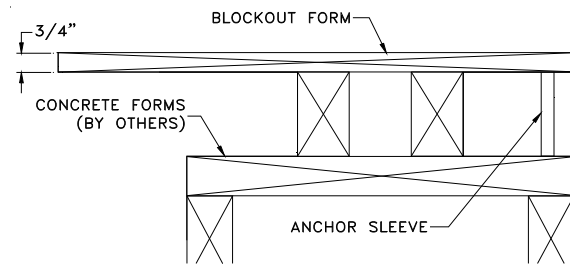

Figure 2
**STEP 7.** Select the anchor sleeves. Affix the anchor sleeves to the concrete forms at the locations marked in Step 6. Ensure that the anchor sleeves are straight, level, and properly aligned (see Figure 2).